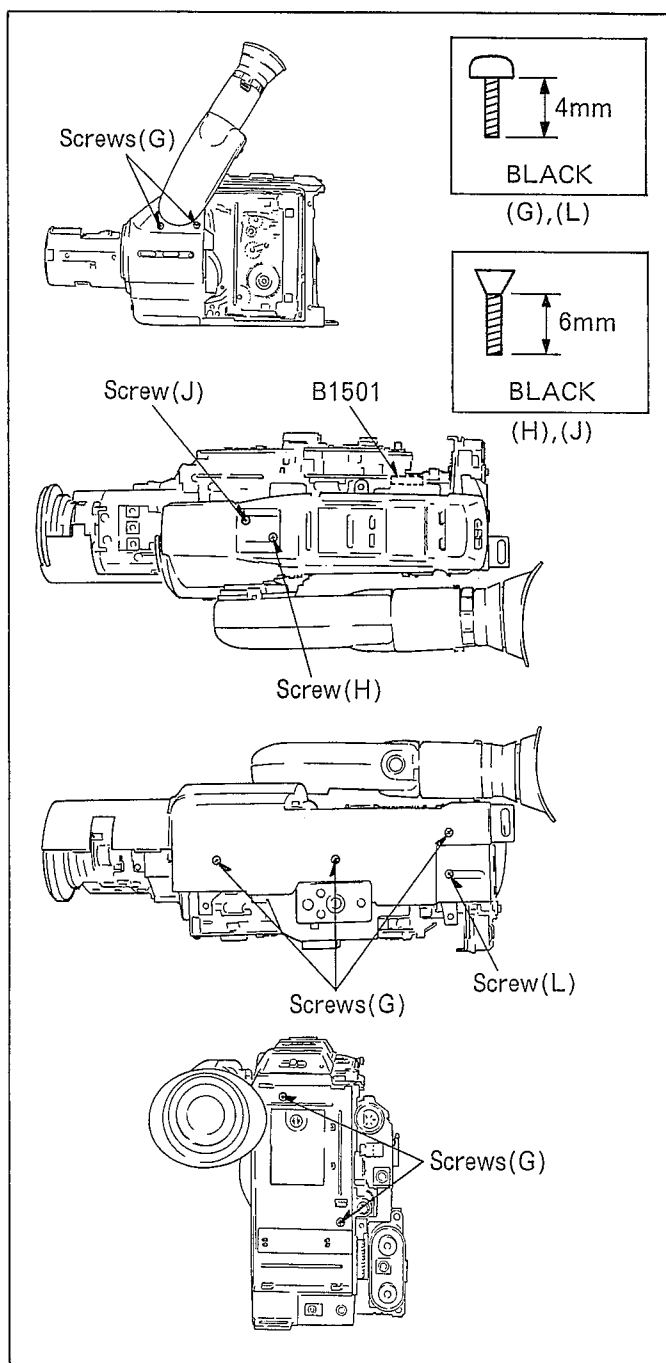

Fig. D6
Connector(B1501) shown in Fig.D6
Remove ..... Screw(L) shown in Fig.D6